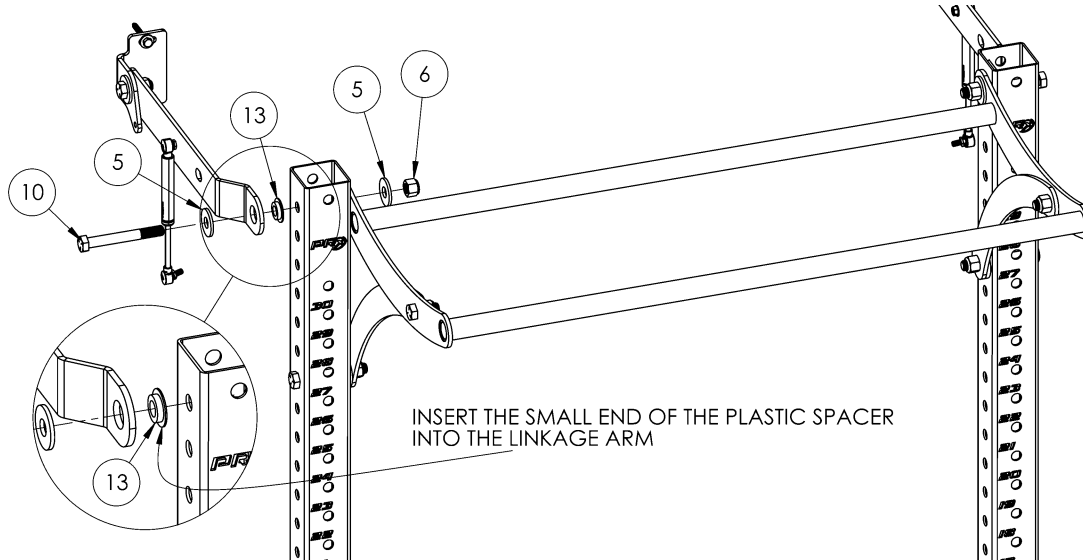

**Figure 8:** Attaching the Kipping Bar Arms to the Uprights
1. Rotate the kipping bar 90 degrees until the kipping bar is in a similar position (**Figure 8**) and the holes in the kipping bar arms align with the seventh hole from the top of the uprights.
2. Using the 4-1/2" hex head bolts (7), and 5/8" lock nuts (6), attach the kipping bar arms to the uprights (**Figure 8**). Make sure to position the plastic kipping bar spacer (19) between the upright and kipping bar arm on both connections (**Figure 8**).
3. Fully tighten both bolts attaching the kipping bar arms (18).